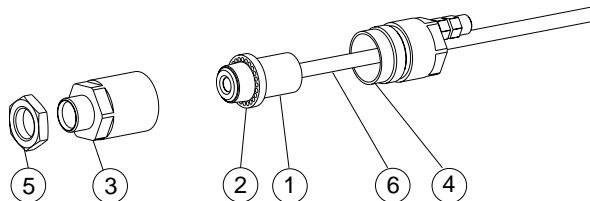

Figure B-16: Air Purge Jacket Installation
To install the air purge jacket (refer to Figure B-16), remove the sensor (1) and cable by disconnecting the cable from the electronics box. Then open the Air Purge Jacket (3, 4) and screw the white plastic fitting (2) onto the sensor up to the end of the threads. (Do not overtighten.) Slip the cable (6) through the backside (4) of the jacket. Close the Air Purge Jacket (3, 4) and reconnect the wires to the electronics box.